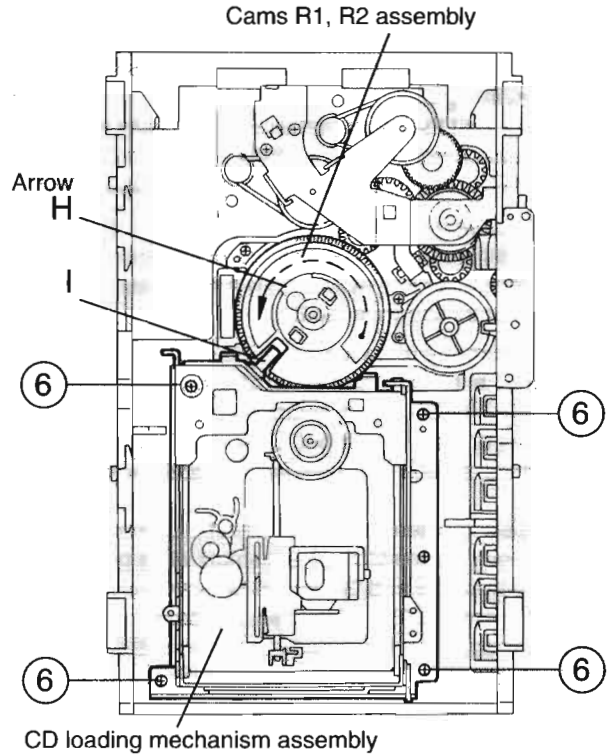

Fig.10
Removing the CD loading mechanism assembly(See Fig.10)
1. While turning the cams R1 and R2 assembly in the arrow direction "H" , align the shaft "I" of the CD loading mechanism assembly to the position shown in Fig.10.
2. Fig.10.